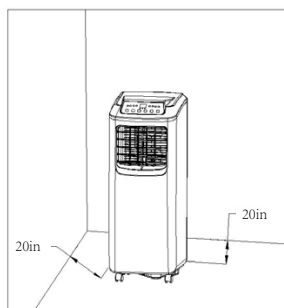

Figure 7
- 1). Move the machine with the heat exhaust hose assembly installed before the window and keep the unit at least 20in away from the walls or other objects. (As shown in Figure 7).